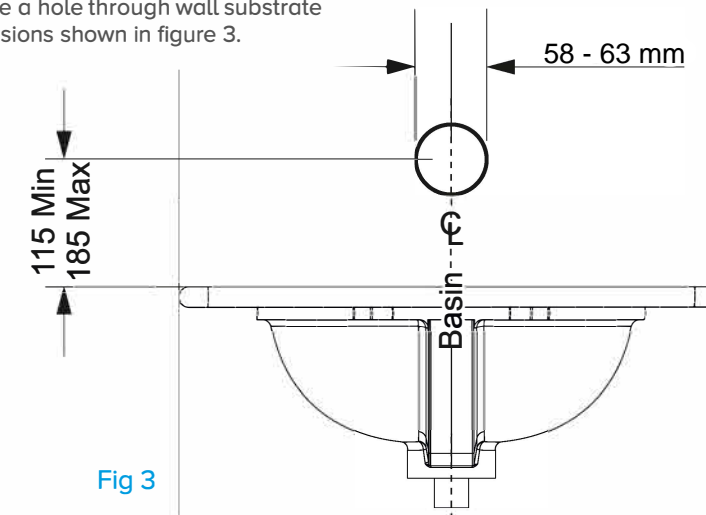

Fig 3
1. Measure, mark and core a hole through wall substrate or panelling to the dimensions shown in figure 3.